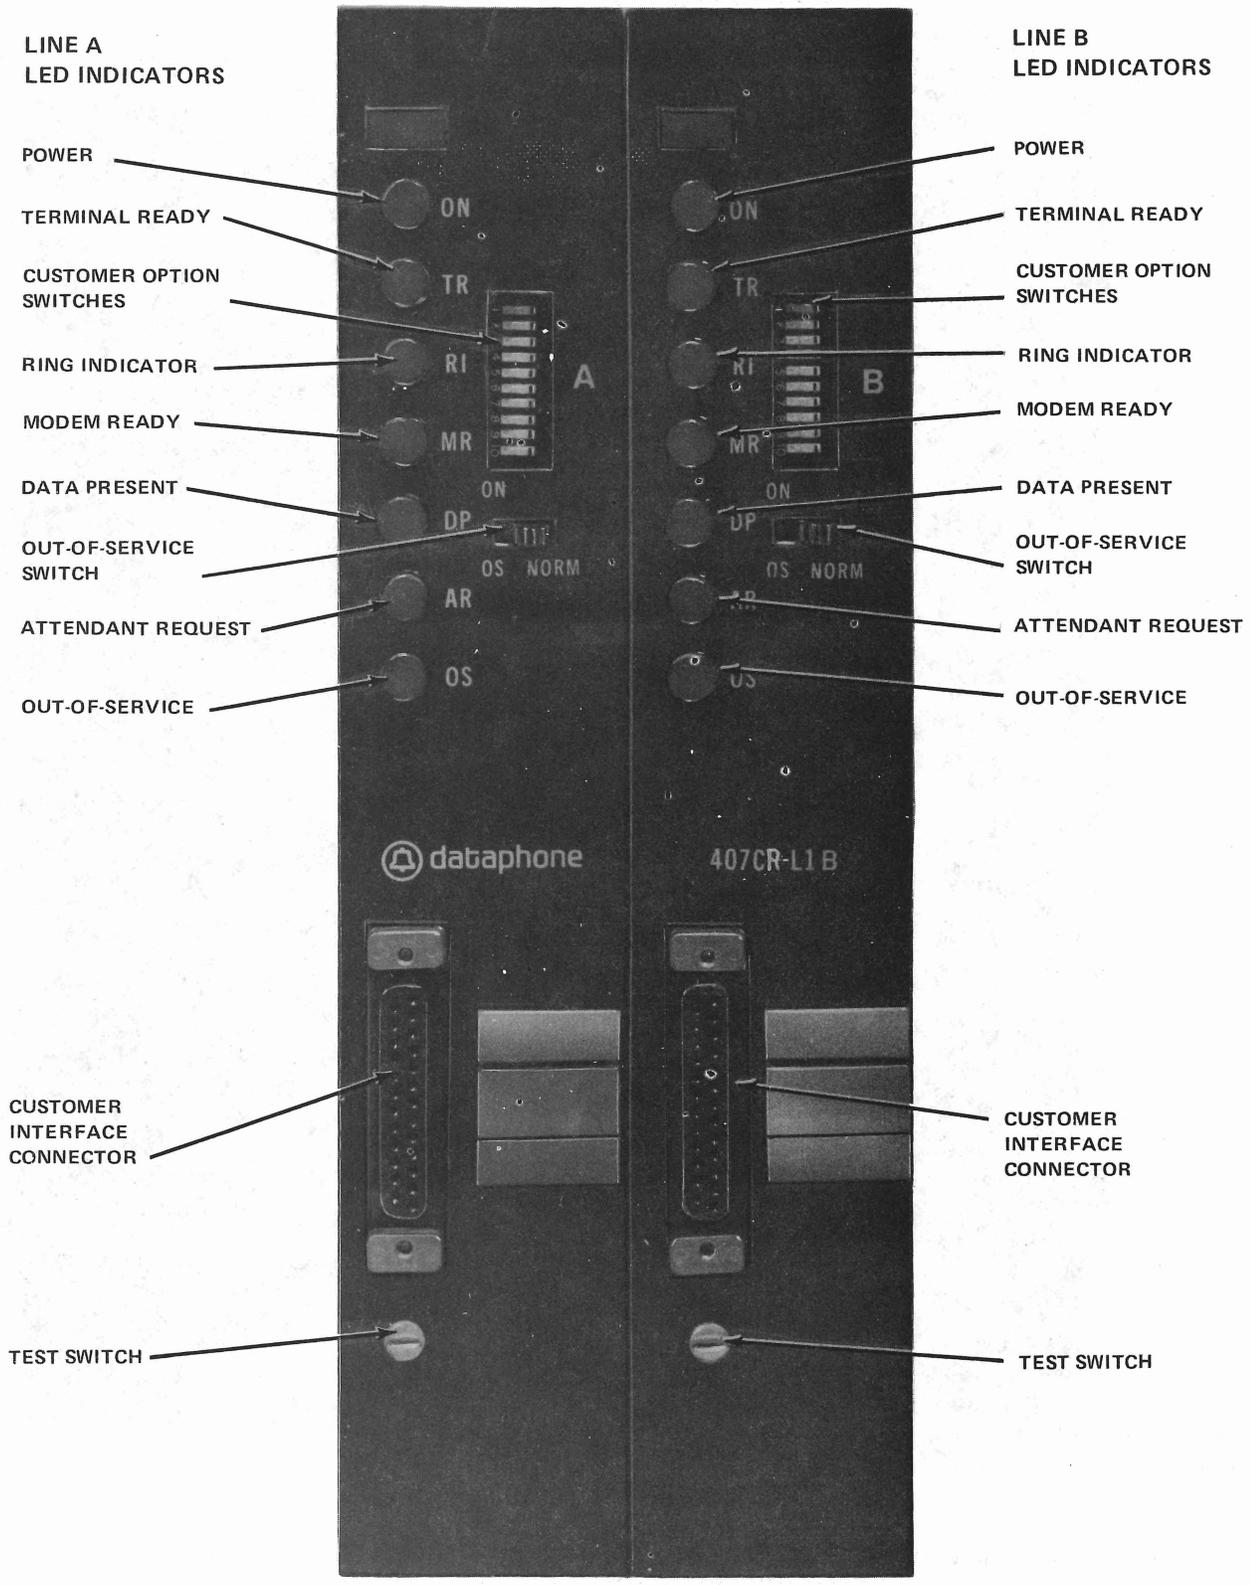

Fig. 2—Data Set 407CR-L1B—Front View
1.06 DS 407CR contains a low-speed, parallel receiver that detects 2-out-of-8 multifrequency signals generated by a TOUCH-TONE-type telephone. The data set receives data from either the 2-wire switched telecommunications network or an unconditioned private line facility. In parallel mode only, the data set provides a two-way voice channel. In the serial mode, only a transmit channel is provided. The data set has the capability of generating 2025- and 2225-Hz tones under certain conditions. Status light-emitting diodes (LEDs), as shown in Fig. 2, are provided on the front panel of DS 407CR to indicate the state of various functions and customer interface signals. DS 407CR provides a serial data interface in accordance with EIA Standard RS-232-C, or a parallel data interface using either a 2-out-of-8 code or a binary coded matrix (BCM) code. The signals used for these outputs conform to EIA voltage specifications of RS-232-C. In addition, for the 2-out-of-8 output, a contact *equivalent* output is available.
3.06 Seven status LEDs are provided on the front of each section of the data set as shown in Fig. 2. The LED names and functions are defined as follows:
- The terminal ready (TR) LED indicates that the data set is ready to receive a call or is in the process of handling a call.
- The ring indicator (RI) LED indicates that ringing is being applied to the data set.